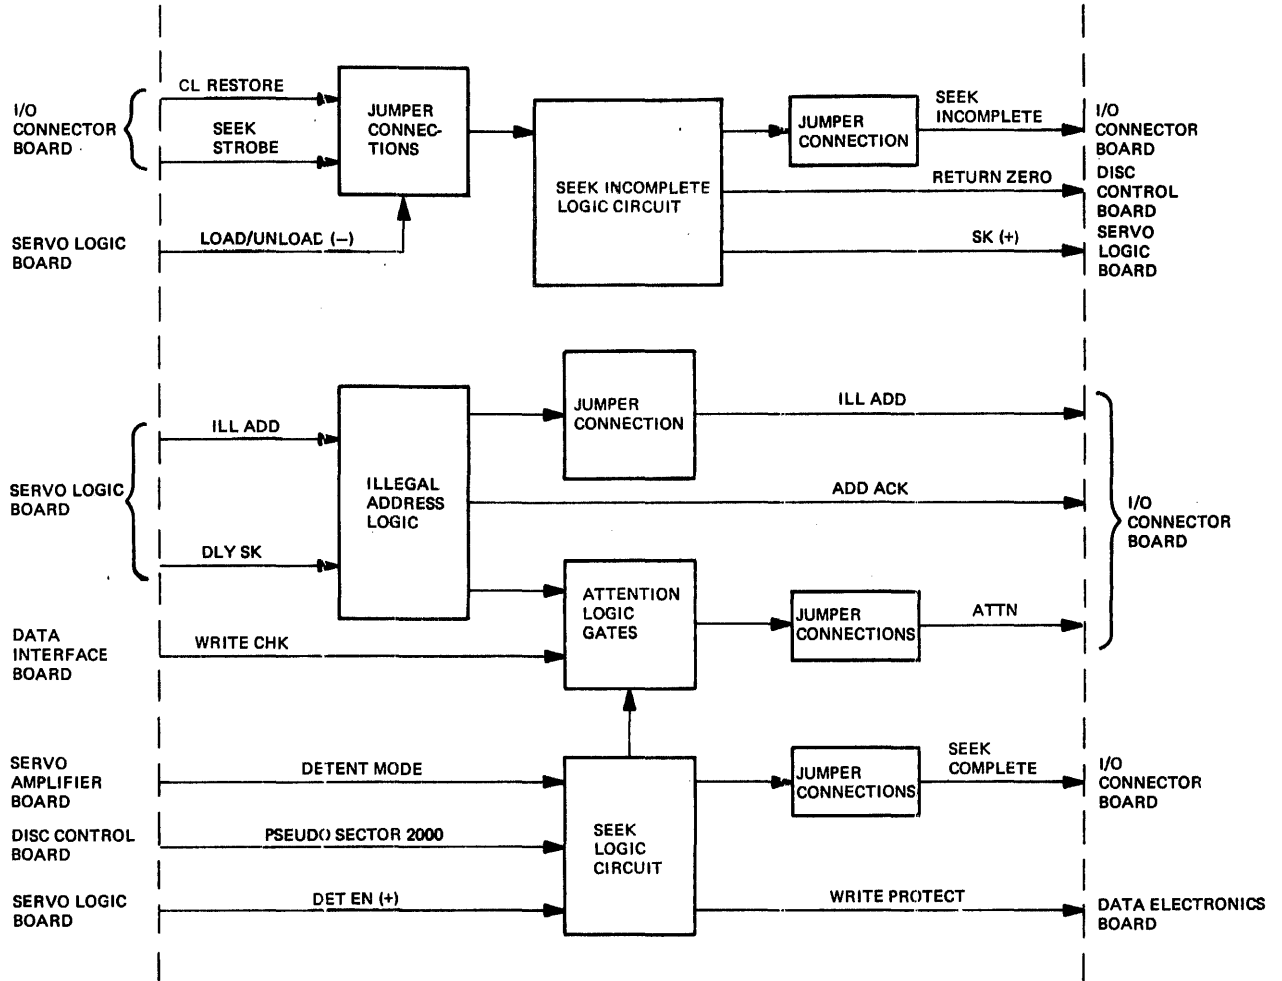

Figure 4-33. Block Diagram – Control Interface Board (CIB) Control Logic Circuits
4.5.9.4 Seek Strobe. The SEEK STROBE command from the Controller is applied to a three-input AND gate on the Control Interface Board (CIB). One of the other two inputs is the output of the Ready flip-flop, so the Disc Drive must be ready to receive inputs before this gate is enabled. The third possible input is the LOAD/UNLOAD pulse from the Servo Logic Board (SLB) which is generated during a LOAD or RESTORE Command cycle. Note that jumper provisions are provided for the LOAD/UNLOAD signal as described in the table on the CIB schematic (Appendix C). When no fault conditions are present, the SEEK (SK) output will go high during a Seek strobe. The output of this gate also starts the Seek Incomplete timer as described in paragraph 4.5.9.5. A block diagram showing control signal paths in the CIB is presented in Figure 4-33.